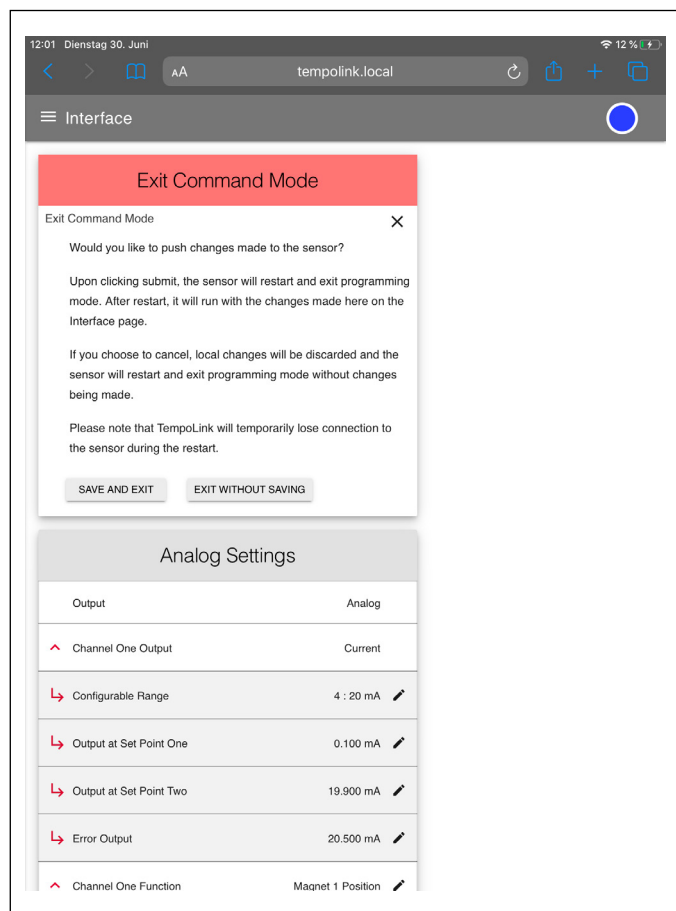

Fig. 50: Exiting the command mode
- After the parameters have been configured, click the button EXIT COMMAND MODE. The "Exit Command Mode" window for exiting the command mode will open. Click the button SAVE AND EXIT to exit the command mode and to transfer the changed parameters to the sensor (Fig. 50). If you click the button CANCEL, the changed parameters are not transferred to the sensor. The sensor returns to the normal function and outputs the current position value. The connection icon on the top right will turn to green.